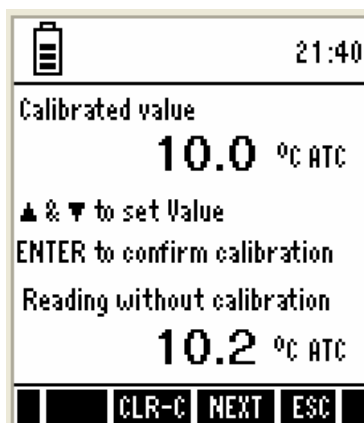

Figure 32: Temperature calibration screen
5. Press **TEMP (F1)** to go to temperature calibration. The temperature calibration screen appears (Figure 32).